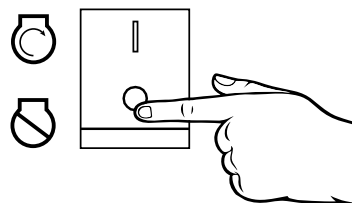

Figure 18 - Stopping the generator
- Position the engine control switch to  **STOP** (see Figure 18).